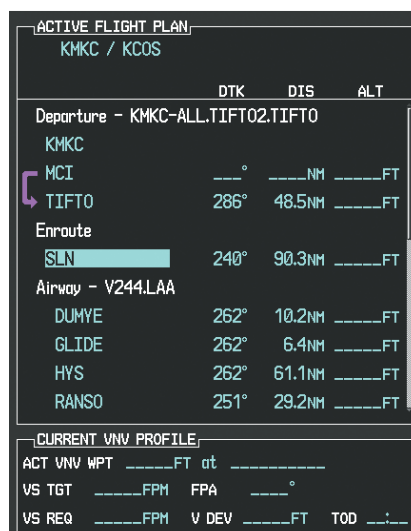

Figure 5-112 Begin Adding V4 to the Flight Plan
- b) The desired entry point for V4 (TOP) must be entered. Turn the large **FMS** Knob to highlight the desired flight plan insertion point (SLN) as shown in Figure 5-112. When the V4 entry point (TOP) is inserted, it is placed immediately above the highlighted waypoint (SLN).